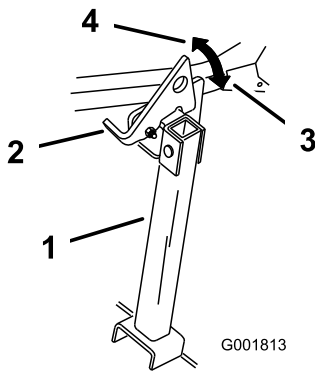

Figure 37
2. Raise the latch to the unlocked position (Figure 37).